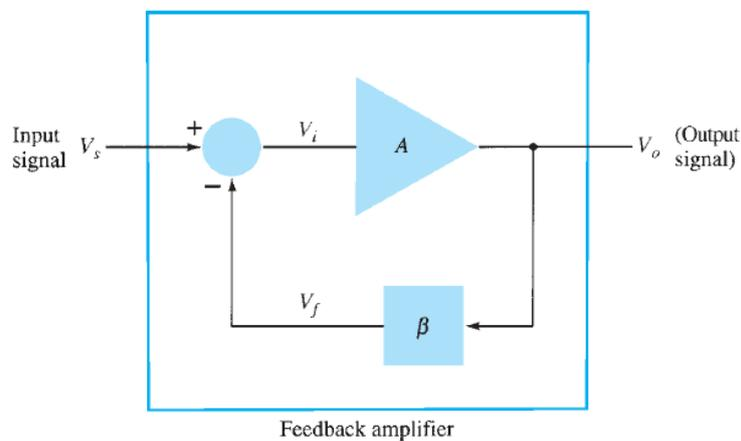

Fig.1
A typical feedback connection is shown in Fig. 1 . The input signal V_s is applied to a difference block, where it is combined with a feedback signal V_f to produce V_i which is then the input signal to the amplifier (A). A portion of the amplifier output V_o is connected to the feedback block (β), which provides a feedback signal to the difference block.